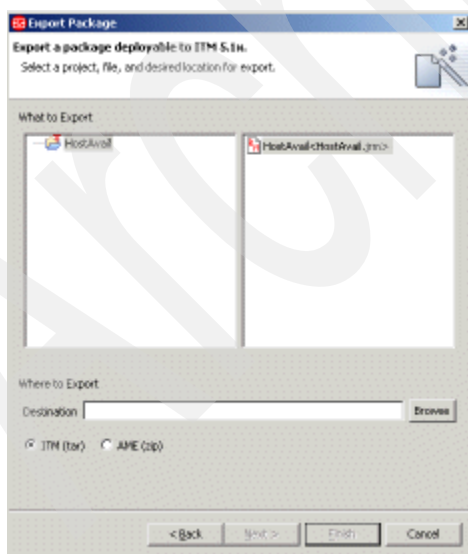

Figure 9-66 Export Package: Export a package deployable to ITM 5.1.x window
42. Verify that the Package Generation Wizard export destination is selected, and then select **Next**. A window displays as shown in Figure 9-66.